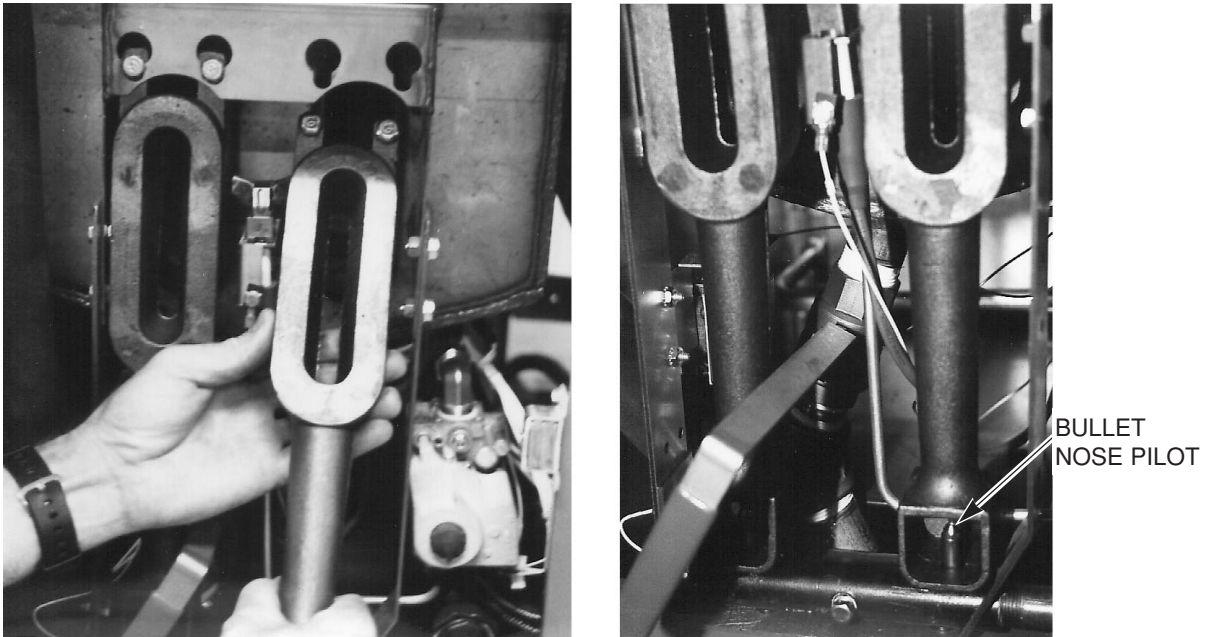

Fig. 30
6. With (2) hands grasp the burner body and push it upward over the bullet nose pilots. Then tilt the burner head back and pull the burner away from the cooker. Note that if more room is required to reach the limit hardware the left side burner may be removed in the same manner. (Fig. 30)
4. With (2) hands grasp the burner body and push it upward over the bullet head burner pilot. Tilt the burner head back and lift it from the cooker. (See Fig 30)